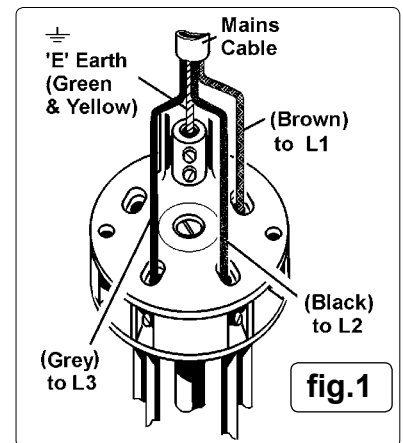

fig.1
1.2.1. This product must be fitted with a 3 phase plug according to figure 1, and will require a minimum of 16A per phase, (preferably 32A) electrical supply. You must contact a qualified Electrician to ensure an appropriately fused supply is available.